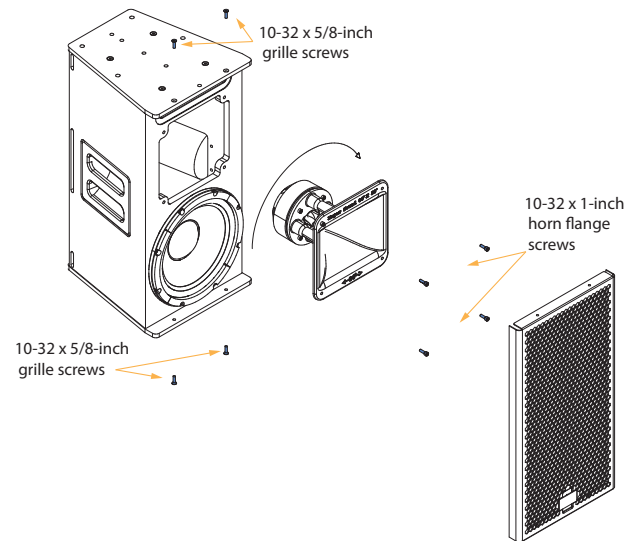

Figure 32: Rotating the Horn
1. Remove the four 10-32 x 5/8-inch screws from the grille cover (two from the top and two from the bottom, Figure 32).